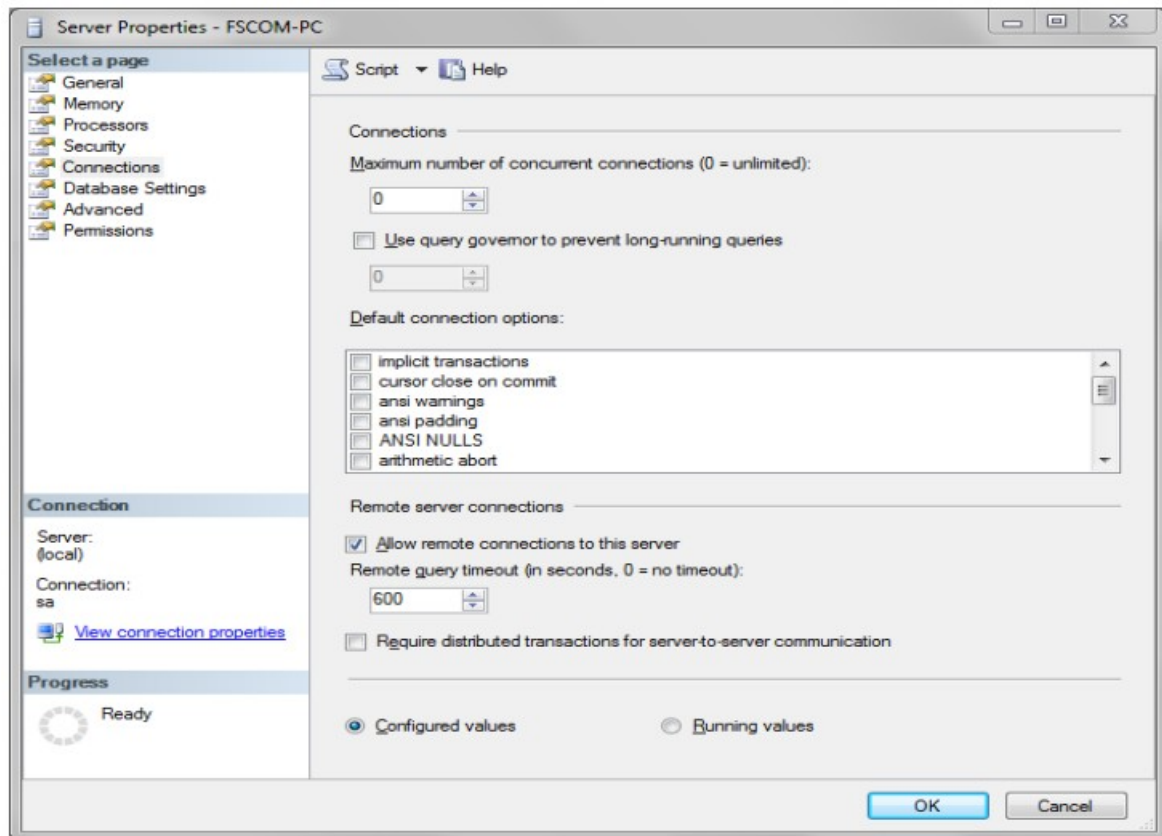

Fig.1.3 Server Properties
**Step Three:** Choose “Connections” on the left, check remote connections to this then click button (see Fig.1.3).